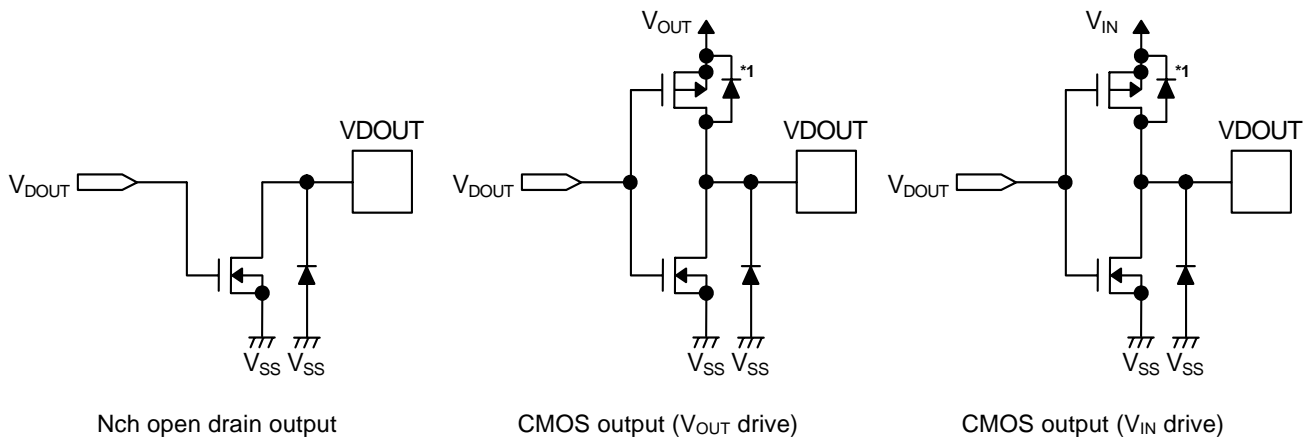

**Figure 33** Equivalent Circuit of  $CD$  Pin (External Delay Type)
**Figure 33** shows the equivalent circuit of the  $CD$  pin (external delay type).